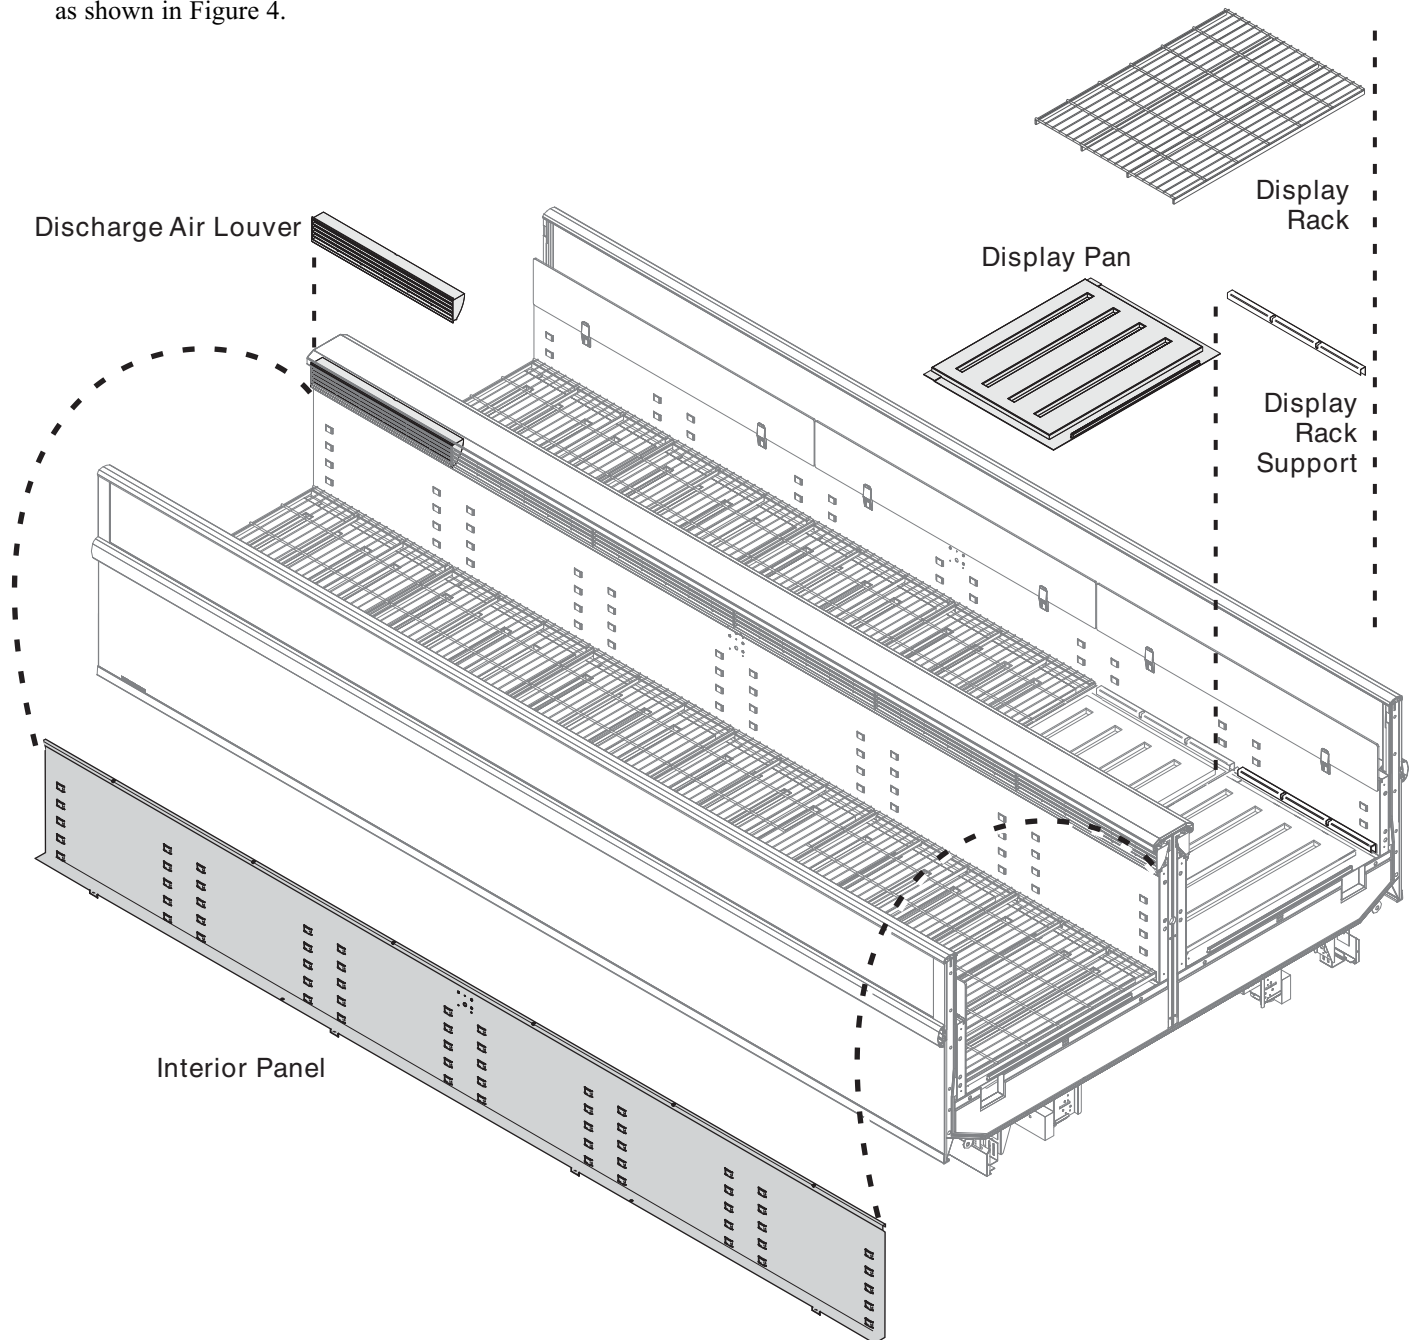

Figure 4 — Remove Racks, Pans & Panels
- Interior back panels from center flue as shown in Figure 4.